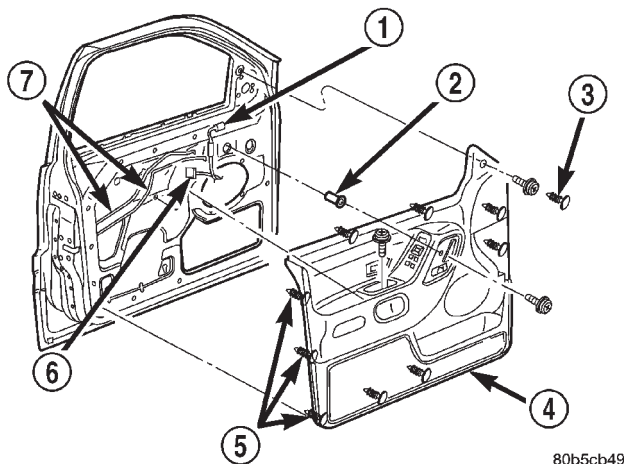

Fig. 14 Front Door Trim Panel
- (1) Remove trim plug from mirror flag bezel.
- (2) Remove screws attaching trim panel to door (Fig. 14).
- (3) Using trim remover (C-4829 or equivalent), detach trim panel perimeter push-in fasteners from door inner panel.
- (4) Lift trim panel upward and separate from door.
- (5) If equipped, disconnect harness connectors for power accessories.
- (6) Disconnect latch rods from inside handle actuator.
- (7) Separate trim panel from vehicle.
- (1) Connect latch rods to inside handle actuator.
- (2) If equipped, connect harness connectors to power accessories.
- (3) Position trim panel on door inner panel.
- (4) Press trim panel push-in fasteners inward around perimeter of door.
- (5) Install screws attaching trim panel to door (Fig. 14).
- (6) Install trim plug in mirror flag bezel.